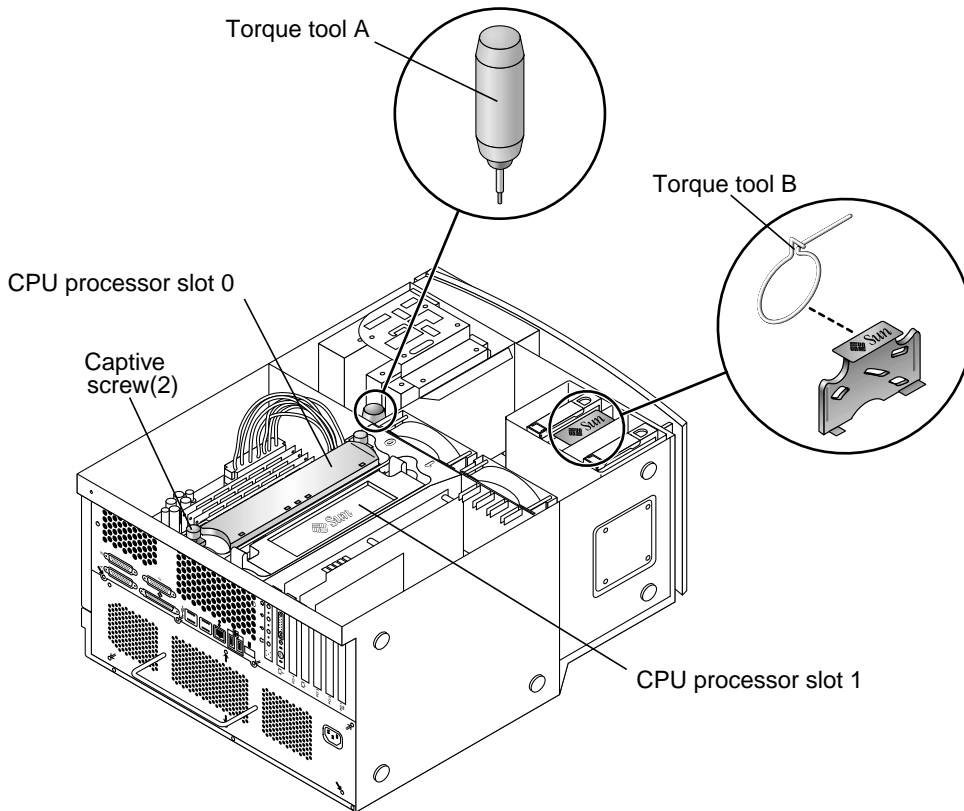

FIGURE 6 Location of CPU Processor Slot 0, CPU Processor Slot 1, Captive Screws, and Torque Tools
Caution – The slot positions of the two UltraSPARC III CPU modules are shown in FIGURE 6. The position shown in figure 6 as “CPU processor slot 0” is the required position for all workstations that contain only one CPU.
1. If necessary, place the workstation on its side on a work surface, open side facing up (see FIGURE 6).
Note – Sun manufacturing installs torque tool A or torque tool B in Sun Blade 1000 workstations. The torque tools are located in different locations in the workstation (see FIGURE 6).
- a. If you have torque tool A, perform steps 10-16** (see FIGURE 6)
- b. If you have torque tool B, perform steps 5-9 and 14-16** (see FIGURE 6).